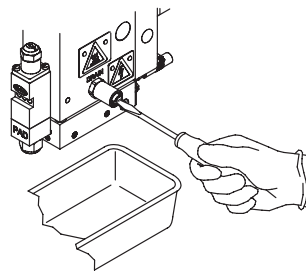

Figure 3 Opening an applicator drain valve
4. See Figure 3. Open the melter and applicator drain valves by turning the drain valve screws counterclockwise. Some adhesive will drain from the valves.